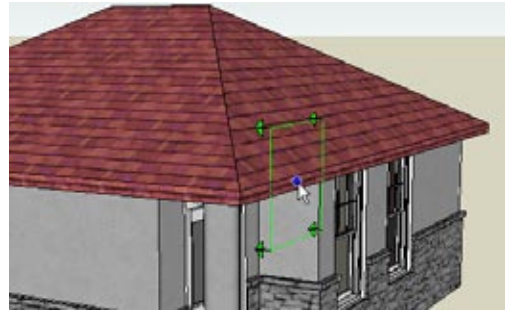

Figure 11-43
2. The first sectioning animation will slice the house from front to back. This requires two section planes: one at the front and one at the back. Activate the Section Plane tool (Tools→Section Plane) and click the long, narrow vertical face at the bottom of the roof (Figure 11-43).